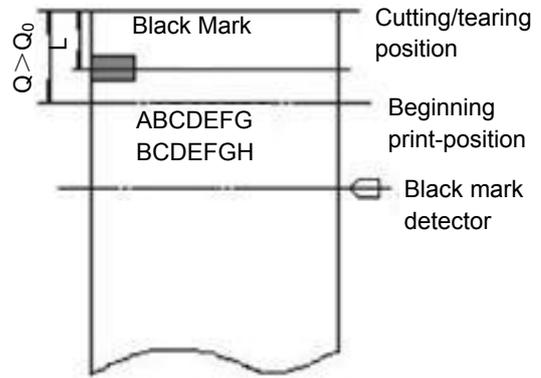

Figure 7-5
3. When the cutting/tearing position offset is not zero, or the distance Q between the beginning print-position and the cutting/tearing position is greater than the inherent mechanical value Q0 of the printer (shown as figure 7-5), the calculation of the beginning print-position offset of "GS ( F" command is shown as follows: